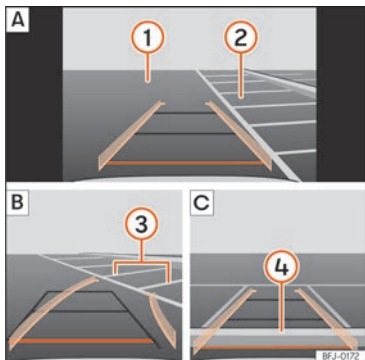

Fig. 207 Display on the Infotainment system screen.: parking with reverse assist.
Key to the **Fig. 207**:
- Place the vehicle in front of the parking space **»»» Fig. 207 (2) [A]**.